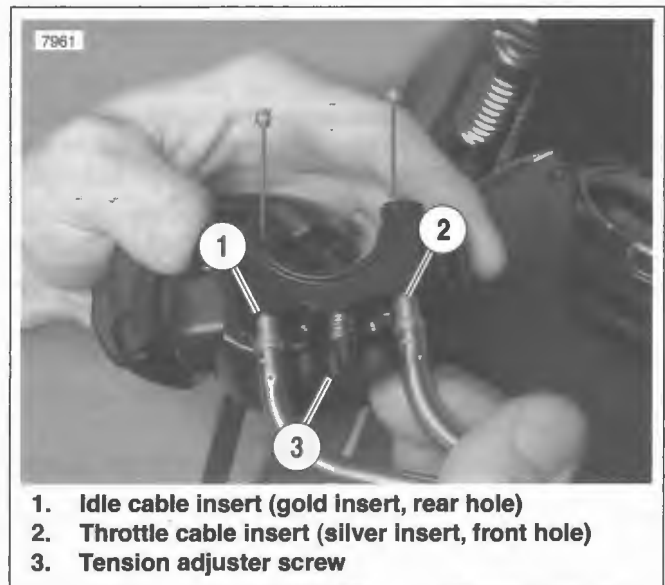

Figure 8-96. Right Lower Switch Housing
2. See Figure 8-96. Push the throttle and idle control cables into the lower switch housing until they snap in place. Note the different diameter inserts crimped into the end of the throttle and idle cable housings.
- a. Push the silver insert (2) of throttle cable housing into the hole in front of tension adjuster screw (3).
- b. Push the gold insert (1) of idle cable housing into the hole at the rear of tension adjuster screw (3).